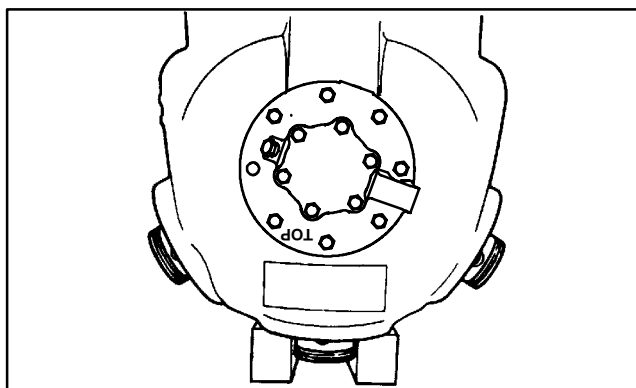

Figure 3-12. Piston Rings Removed
- b. Install the bearing head assembly with a new gasket on the compressor crankshaft. Carefully push oil pump on by hand ensuring that the thrust washer remains on the dowel pins, the tang on the end of the drive engages the slot in the crankshaft, and the oil inlet port on the pump is aligned with the oil pickup tube in the crankcase. The oil pump should mount flush with the crankcase with the "TOP" stamp on the pump oriented straight up. (See Figure 3-12)
d. Push the piston rods down so that the piston rings extend below the cylinders. Remove and discard piston rings. Use only new rings when reassembling the compressor. (See Figure 3-12.)